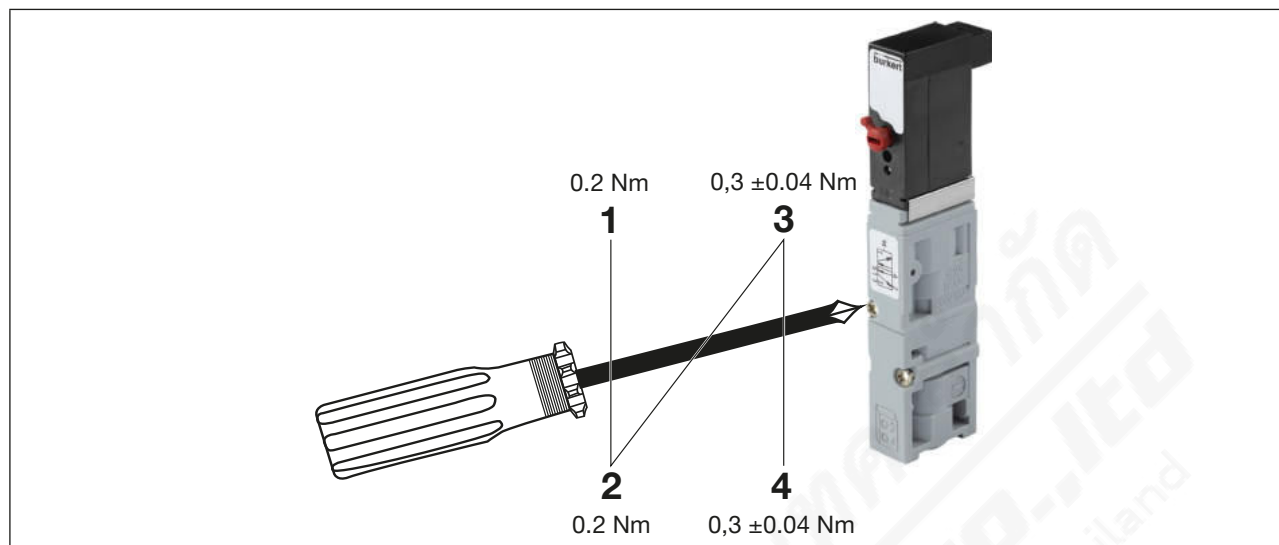

Fig. 29: Tightening the screws when replacing valve types 6524 and 6525
- Tighten the fastening screws crosswise, paying attention to the tightening torque (see Fig. 29).